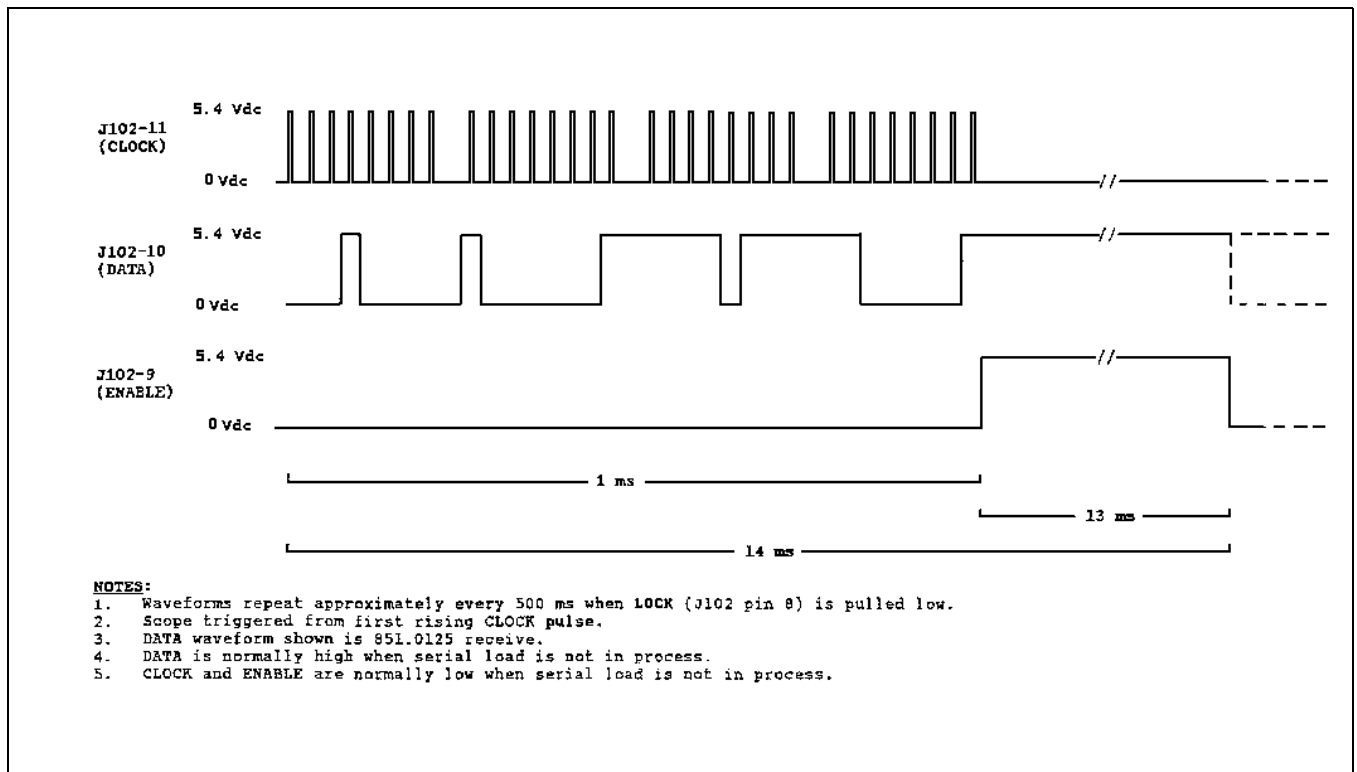

Figure 8 - CLOCK, DATA And ENABLE Pulses
2. Monitor CLOCK, DATA and ENABLE (on J102 pins 11, 10 and 9 respectively) for pulse activity when a channel is changed. See Figure 8. If these signals are not present, suspect a defective I/O Microcontroller.
2. Module A1 also influences switching time. Insure the ENABLE pulse is present at A1 pin 4. See Figure 8 for details.
3. Monitor CLOCK, DATA and ENABLE (on J102/P2 pins 11, 10 and 9 respectively) for pulse activity when a channel is changed. See Figure 8. If these signals are not present, suspect a defective I/O Microcontroller. A failure of only one signal points to an open series resistor on the Control Board or a defective output from U18. NOTE: Temporarily connect LOCK (J102/P2 pin 8) to ground to view these waveforms.